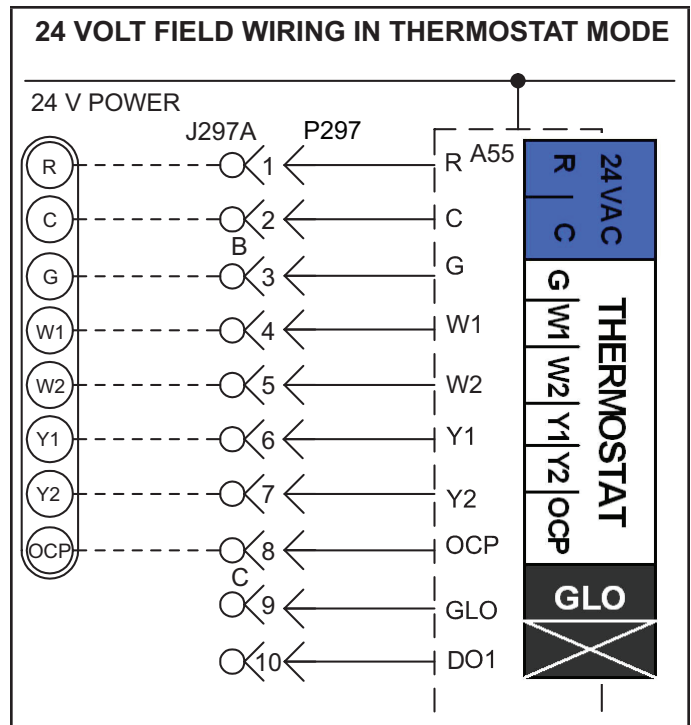
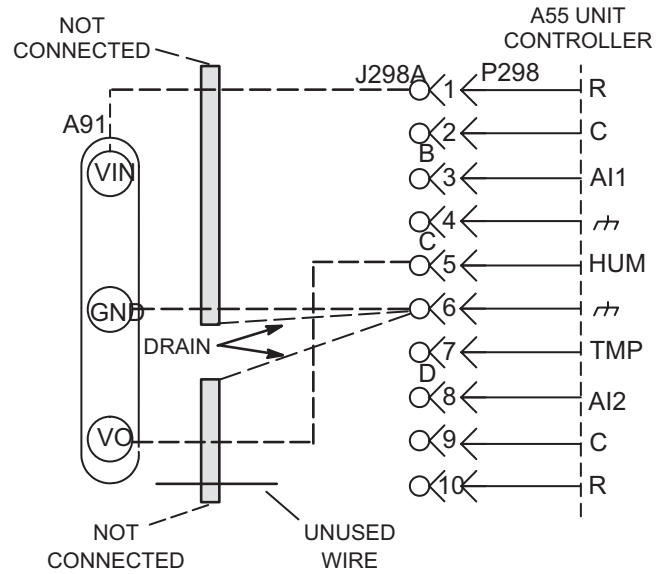
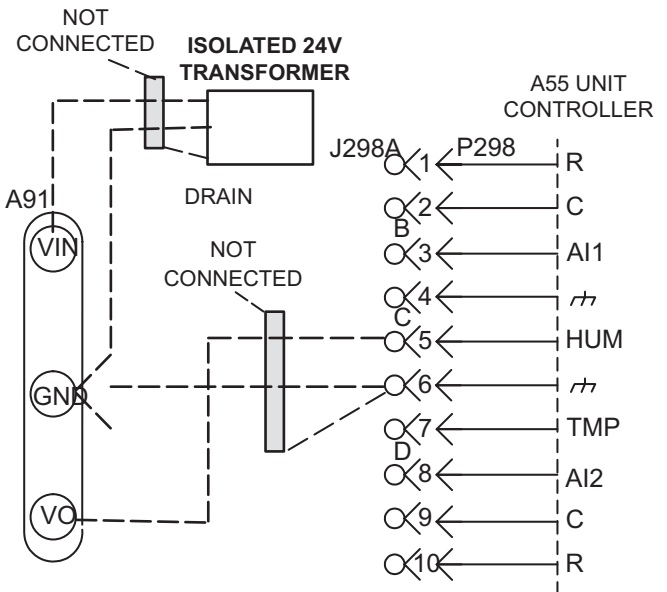

FIGURE 14
FIGURE 17
FIGURE 18
- 4 - Wire as shown in FIGURE 14 for electro-mechanical and electronic thermostats. If using other temperature control devices or energy management systems see instructions and wiring diagram provided by manufacturer.
- 2 - Make wiring connections as shown in FIGURE 14 for Thermostat Mode or FIGURE 15 for Zone Sensor Mode. In addition, connect either a humidity sensor or a dehumidification input. See FIGURE 17 or FIGURE 18 for humidity sensor wiring or FIGURE 16 for dehumidification input wiring.
Use two separate shielded cables containing 20AWG minimum, twisted pair conductors with overall shield. Belden type 8762 or 88760 (plenum) or equivalent. Connect both cable shield drain wires to the Unit Controller as shown in FIGURE 17.
Use two separate shielded cables containing 18AWG minimum, twisted pair conductors with overall shield. Belden type 8760 or 88760 (plenum) or equivalent. Connect both cable shield drain wires to the Unit Controller as shown in FIGURE 17.
Use a local, isolated 24VAC transformer such as Lennox cat #18M13 (20VA minimum) to supply power to RH sensor as shown in FIGURE 18. Use two shielded cables containing 20AWG minimum, twisted pair conductors with overall shield. Belden type 8762 or 88760 (plenum) or equivalent.